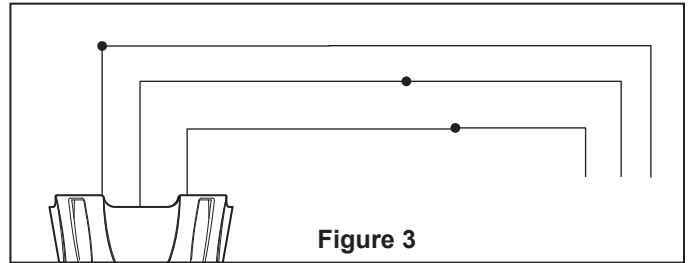

Figure 3
4. Connect the green grounding lead from the fan motor to the supply grounding conductor (this may be a bare wire or wire with green colored insulation). Securely connect wires with wire connectors supplied. (Figure 3)
8. Securely connect the white fan motor wire to the white supply (neutral) wire using wire connector supplied. Securely connect the black fan motor wire to the black supply wire using wire connector supplied. (Figure 3) After connections have been made, turn leads upward and carefully push leads into the outlet box, with the white and green leads on one side of the outlet box and the black lead on the other side of the outlet box. (Figure 5)